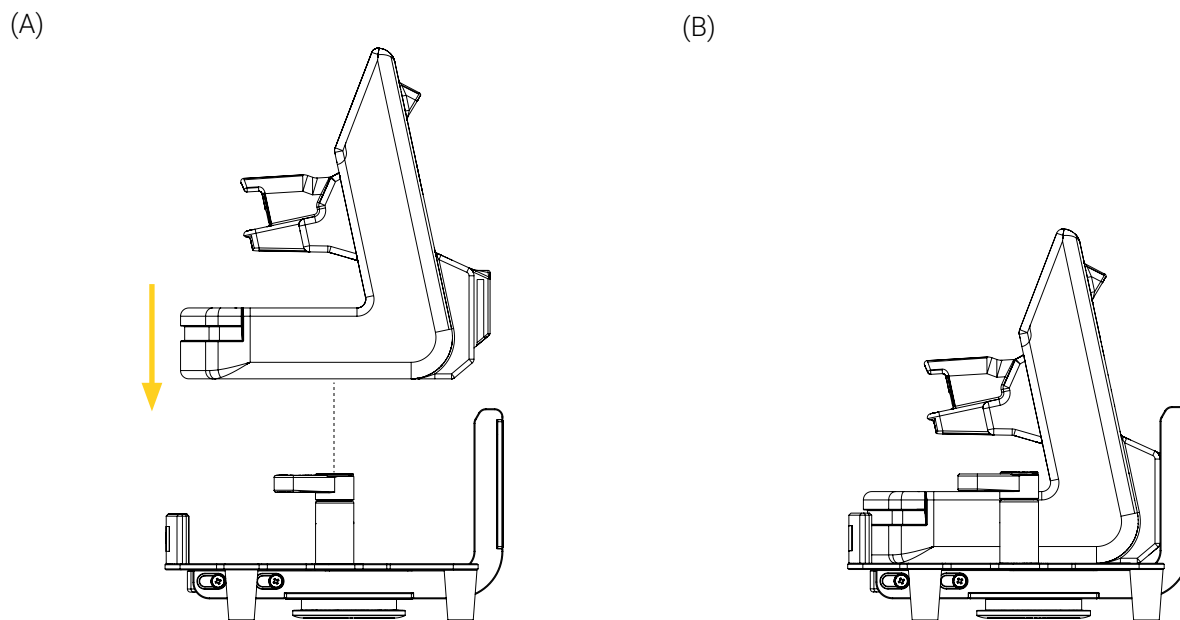

Figure 9: Installing the medical device in the support bracket with a bottom micro disc
2. Insert the medical device into the support bracket using the handle (Figure 9).